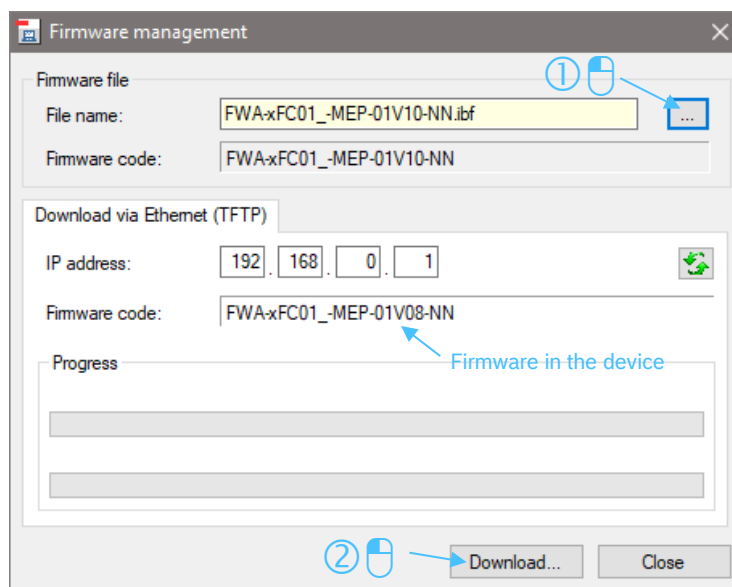

Abb. 14: Firmware update MEP window
- Click on "..." to navigate to a firmware file (*.ibf) and download it to the device by clicking on "Update" (see Abb. 14: Firmware update MEP window).